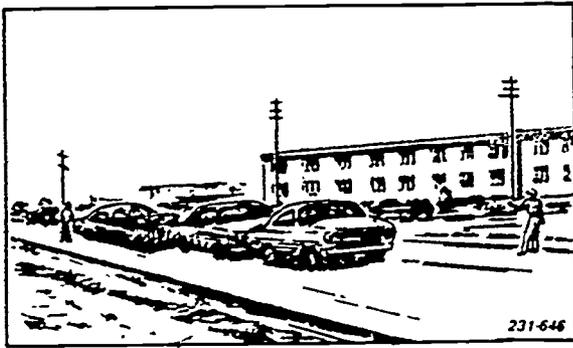

Figure 3-11 General view of vehicle accident showing road condition
What to Photograph. The photographic coverage needed when a crash or an accident occurs may vary depending on the desires of the investigators. The minimum coverage should include at least the following general coverage: (1) general views of the areas involved, (2) close-up photographs to show important details, (3) photographs of specific parts that might have been the cause of the accident, (4) marks left on the ground that might provide support information, and (5) views that show damage to property—either Air Force or privately owned—resulting from the accident. (See figs. 3-11 through 3-16 for typical accident coverage.)